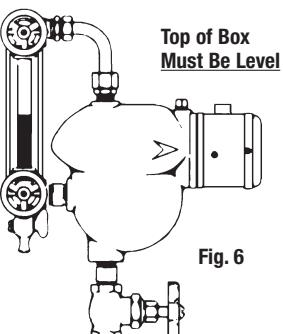

Fig. 6
7. Install drain valve in bottom float chamber tapping. Fig. 6.
8. Re-install gauge cocks in the end of the tees and replace the gauge glass. Fig. 6.